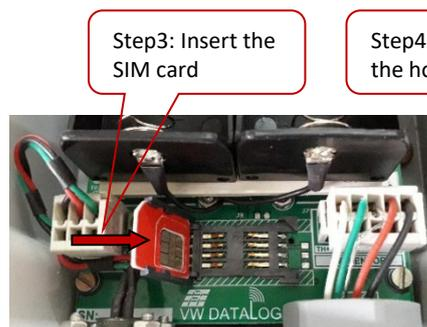

Figure 3-10
- 3 Insert the SIM card into slot of SIM card holder as direction shown in Figure 3-10.